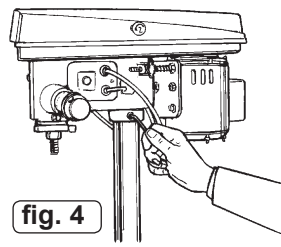

fig. 4
- 5.1.8. Insert the two set screws in the right side of the head to lock it into position and tighten with hex. key (fig.4).